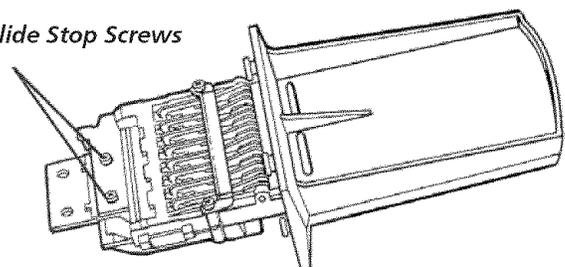

FIGURE 3
- Remove coin slide stop by taking out two screws to the chute bottom (see FIGURE 3).
(2) Slide Stop Screws